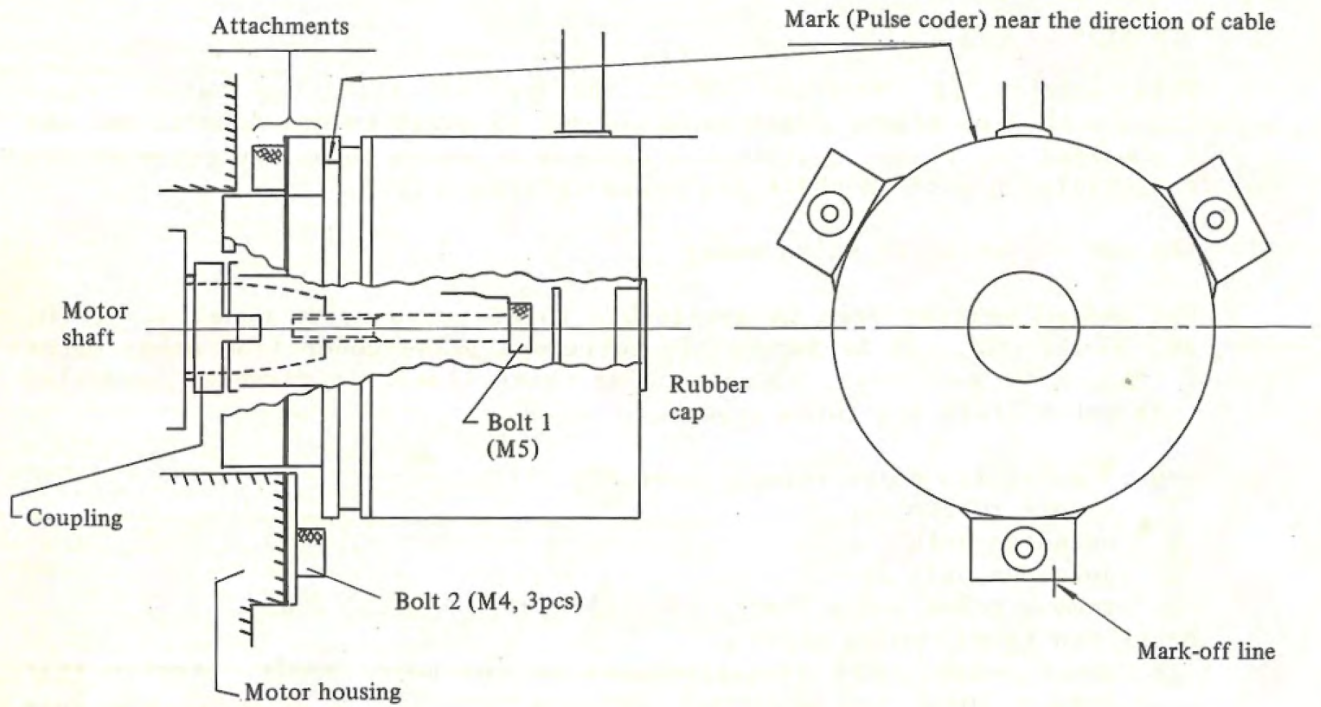

Fig. 1
a. Remove defective pulse coder. (see Fig. 1)
- ① remove rubber cap.
- ② unfasten bolt 1.
- ③ unfasten bolt 2.
- ④ remove pulse coder (+attachments) from the motor shaft.
- ① mount pulse coder (+attachments) on the motor shaft. Notice that both a tooth (of coupling) and a groove (of pulse coder) are just fitted together. Care should be taken, for fitting length is short.
- ② connect both shaft by bolt 1.
- ③ adjust marking-off line between attachments of pulse coder and motor housing.
- ④ fasten bolt 2.
(3) The way of checking the phase-relationship